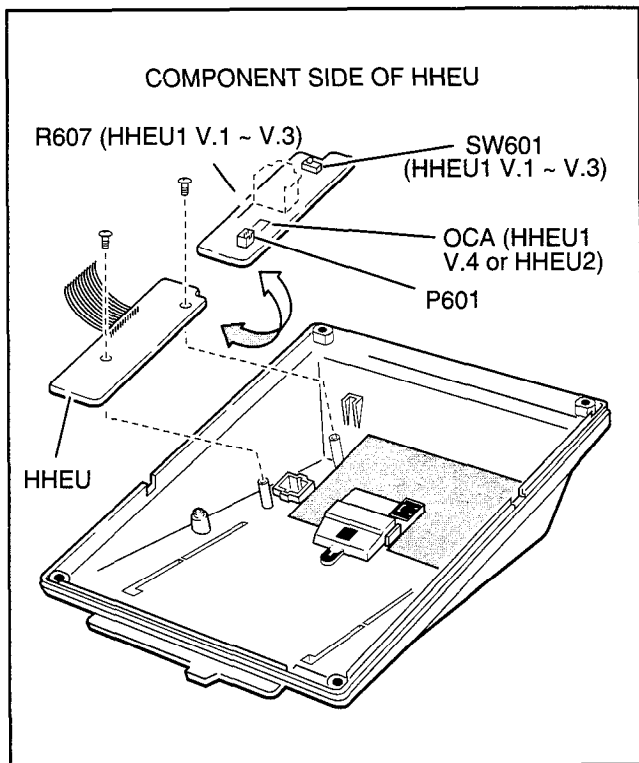

FIGURE 6-10
- 3) If installing a **V.3 HHEU1**, set the **SW601** switch on the HHEU to **HEADSET** for the headset or loud bell application (Figure 6-10). **V.4 HHEU1** and **HHEU2** do not have this switch, because both of these upgrades are automatically set for the headset/loud bell application.
- 5A) For the **V.3 HHEU1**: If only the headset is connected to the HHEU, cut both sides of the **R607** resistor (Figure 6-10), then remove the resistor to eliminate electrical contact.
- 5B) For the **V.4 HHEU1** and the **HHEU2**: If only the headset is connected to the HHEU, cut the **OCA** strap (Figure 6-10).
- 6) Position the HHEU PCB on the standoffs inside the base (Figure 6-10), and secure with the two provided screws.